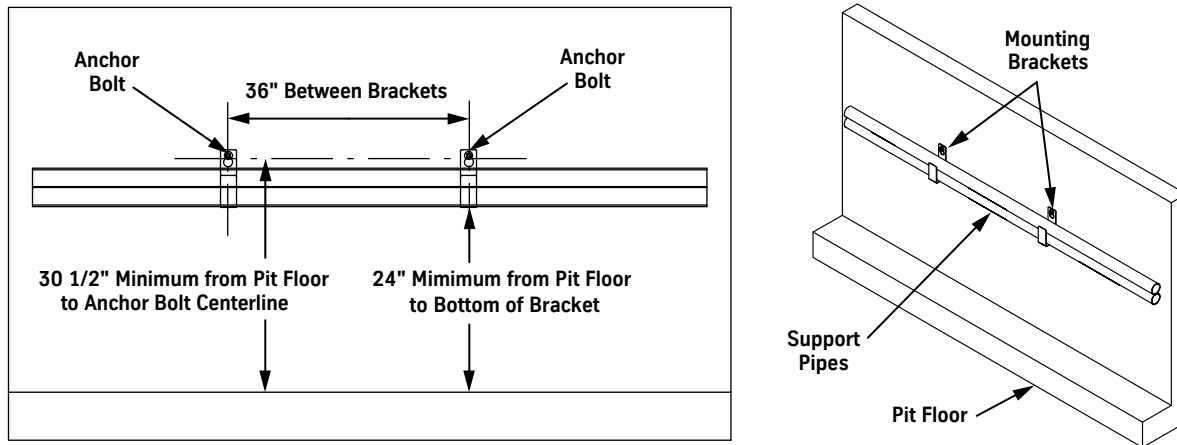

Figure 49 - Support Pipe Mounting Bracket Kit
1. Locate and install the provided anchor bolts. See Figure 49 for dimensions.